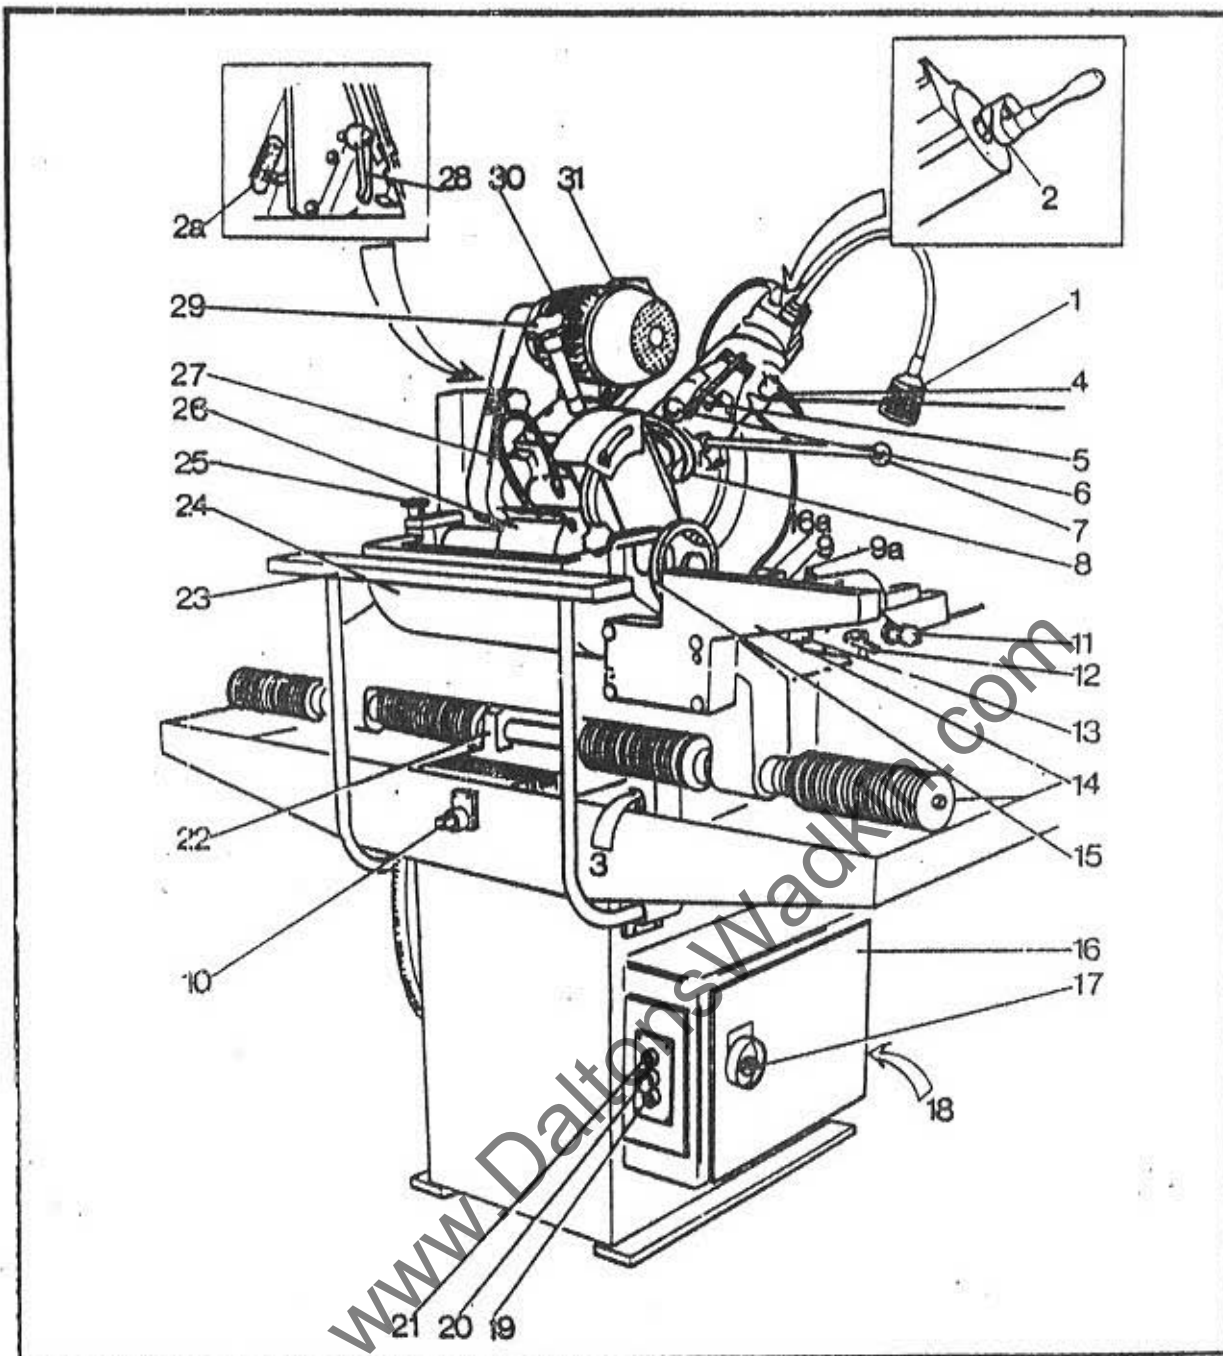

Fig. 7
The grinding head tilts on its barrel to position the grinding wheel vertically or to 5 or 10 degrees to either left or right. Use tilt handle (7) to tilt the head, index plug (6) to position it, and lock lever (4) to secure the barrel. Fig. 7 & 8.
Dress regular grit grinding wheels after fitting, after resetting the clearance angle, as necessary during grinding and always prior to the final grind. Fig. 7.